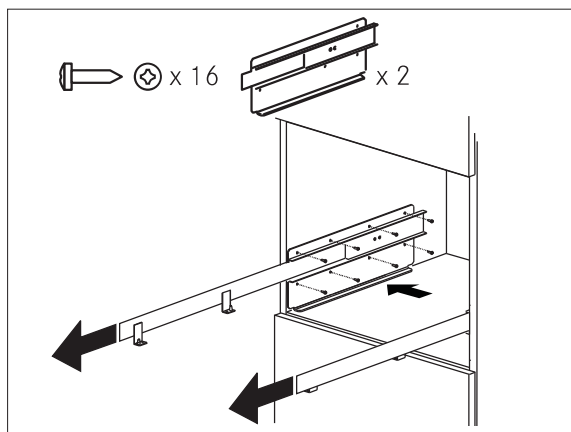

Fig. 4
- Position the rails on the sides of the cabinet as shown in the Figure 4. Fix with the screws supplied, then extract them completely. If the coffee maker is installed over a warmer drawer, use the top surface of this as a reference to position the rails. In this case, there will be no surface to rest the rails on.